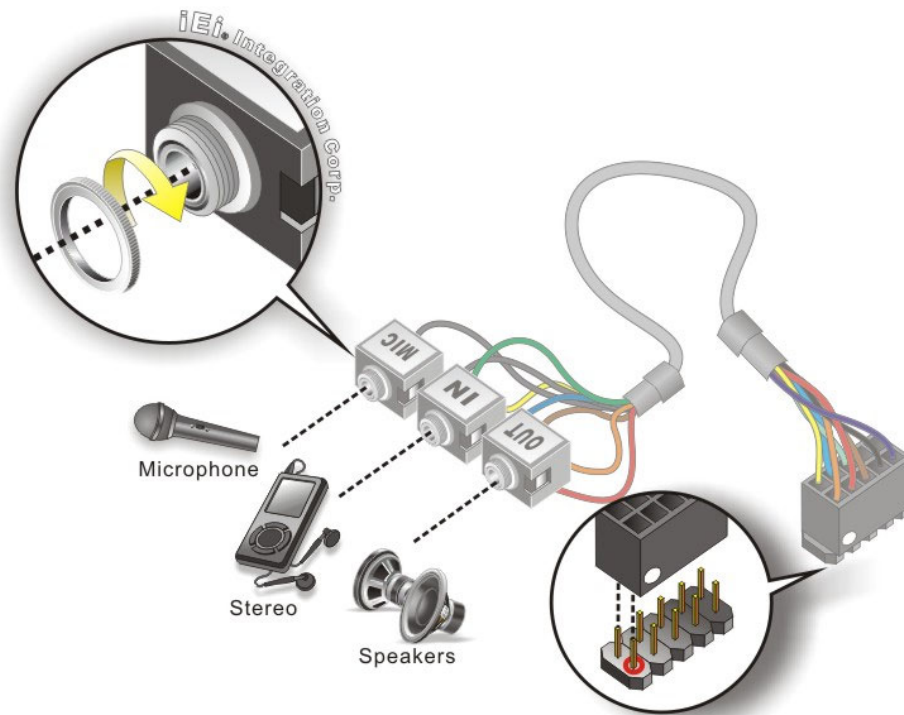

Figure 4-16: Audio Kit Cable Connection
- Step 2:** **Align pin 1.** Align pin 1 on the on-board connector with pin 1 on the audio kit connector. Pin 1 on the audio kit connector is indicated with a white dot. See **Figure 4-16**.